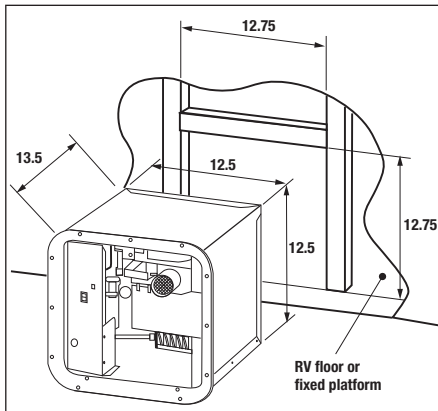

Figure 1
- DO NOT lift the water heater or carry it by holding the blower assembly support bracket/exhaust tube (Figure 1).
Make sure that the front edge of the opening is surrounded by a solid frame to firmly anchor the water heater; if needed, build an appropriate frame using 2" X 2" elements (Figure 1)
- Lifting or moving the water heater using the Blower Assembly Support Bracket/Exhaust Tube (Figure 1) may result in improper alignment of the vent and/or improper alignment of the Sail Switch.